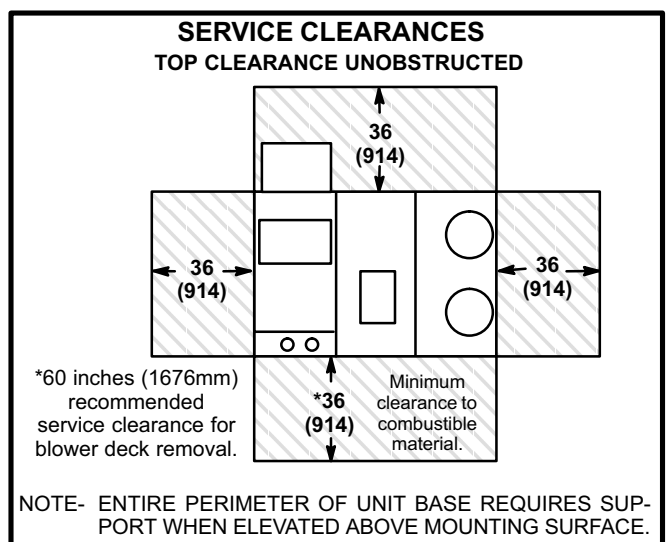

FIGURE 1
The LHA unit is ETL certified for outdoor installations only at the clearances to combustible materials listed on unit nameplate and in figure 1.
The LHA unit is CSA International certified as a heat pump with cooling and with or without auxiliary electric heat for non-residential use only at the clearances to combustible materials as listed on the unit nameplate and in figure 1.
- 2- Specified installation clearances must be maintained when installing LHA units. Refer to figure 1.